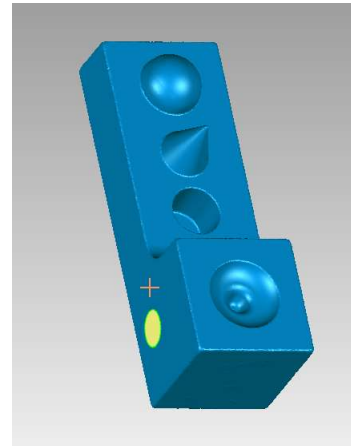

Figure 55
1. **Rotate the** view to the side of the part with the open boundary hole, see **Figure 55**.